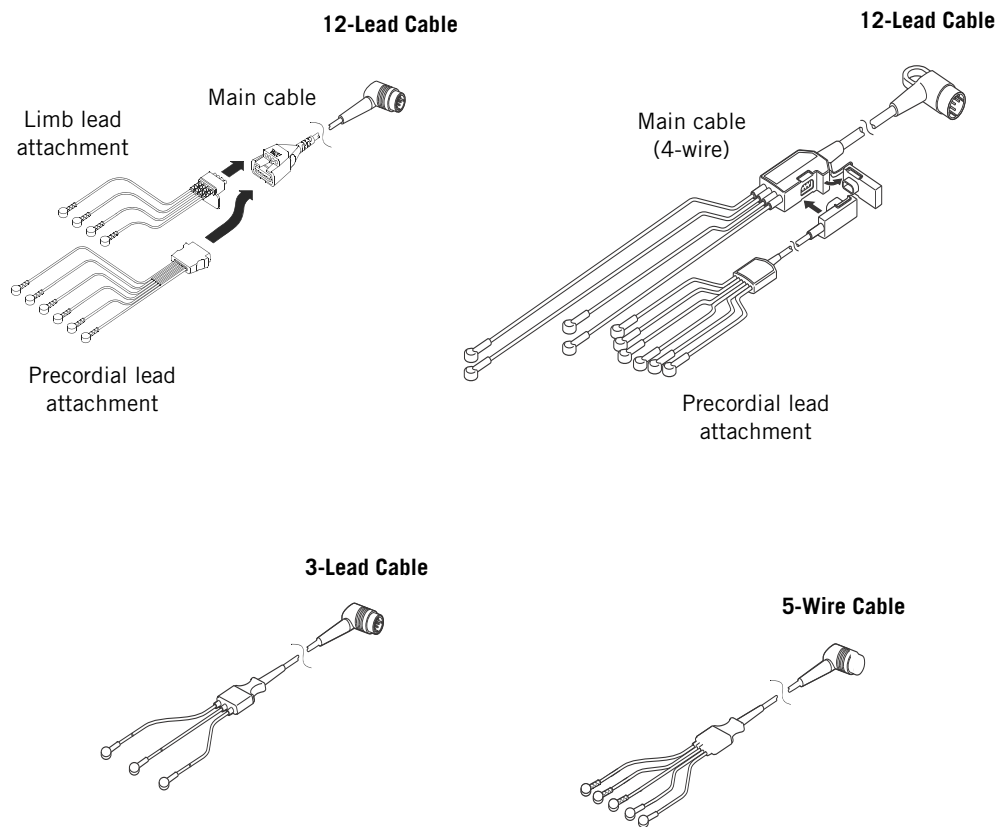

Figure 4-2 12-Lead, 3-Lead, 4-Wire, and 5-Wire ECG Cables
The following ECG cables, shown in Figure 4-2, are available for ECG monitoring with the LIFEPAK 15 monitor/defibrillator:
1. Insert the precordial lead attachment into the main cable as shown in Figure 4-2 on page 4-8.